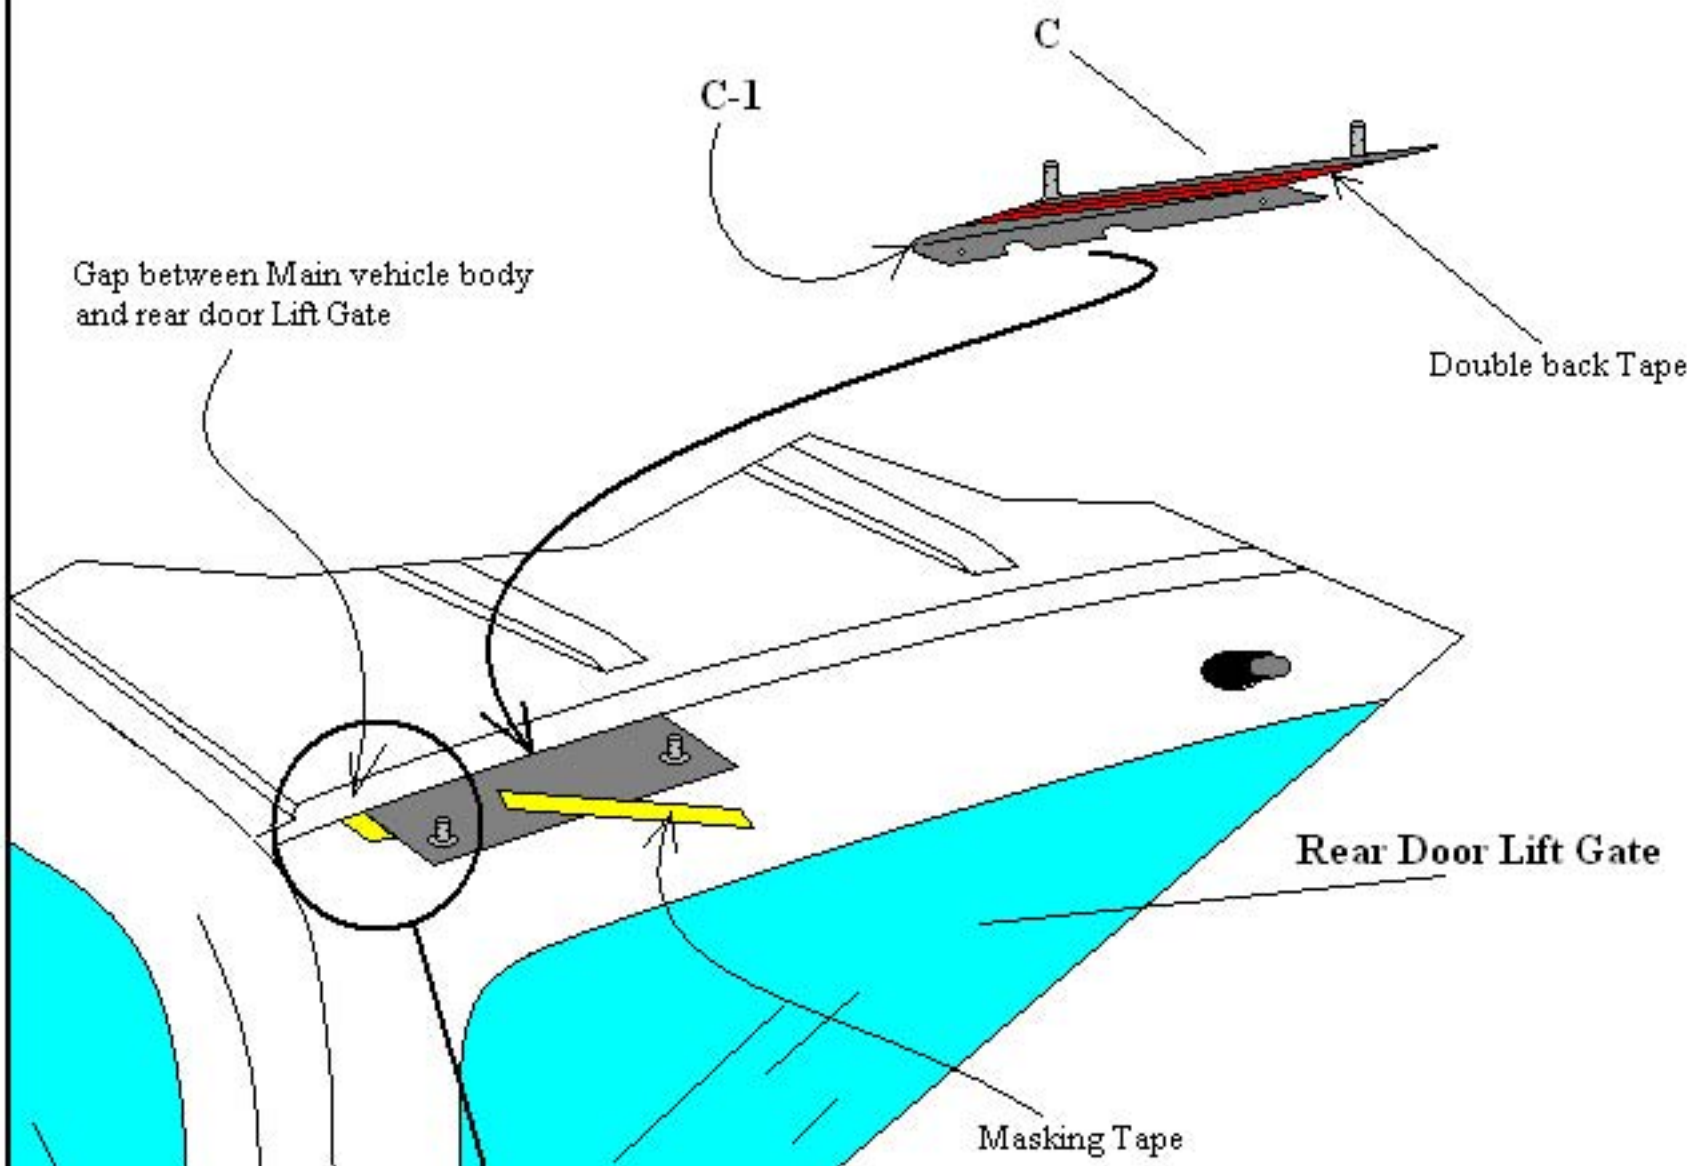
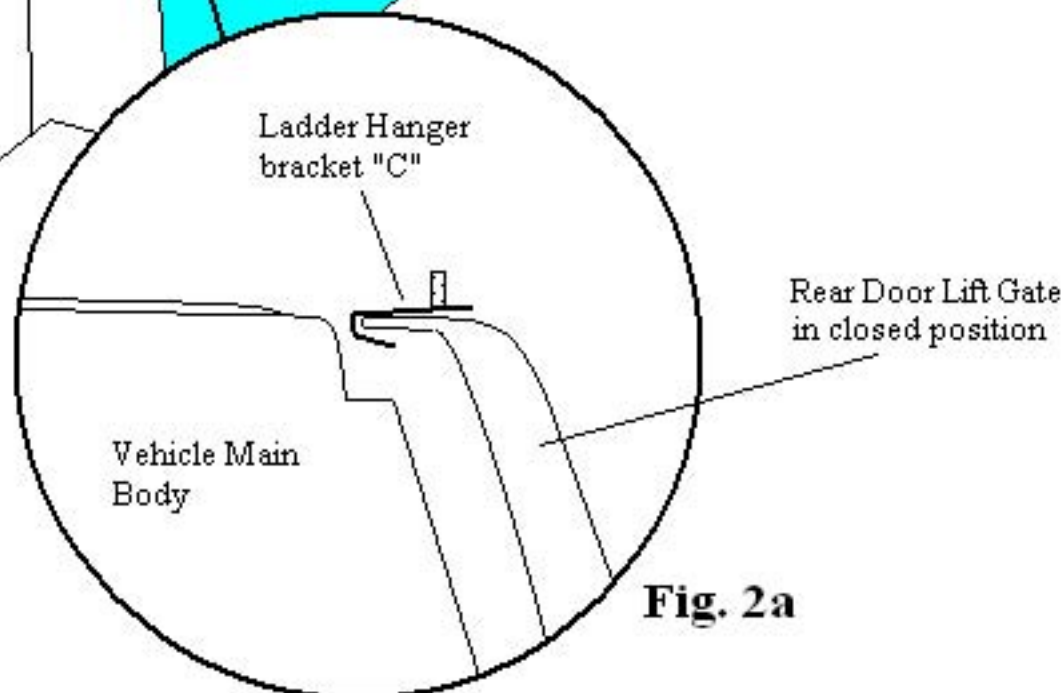

Fig. 2
Fig. 2a
- 3- Remove Ladder hanger bracket "C" supplied with your parts kit ***Do not peel off the double back protective film at this time*** carefully side bracket "C" as shown on page 5 Fig. 2 and Fig. 2a between the gap of the upper rear door Lift Gate and the main vehicle body. Once bracket "C" has been slipped into the gap align the left edge of the ladder hanger "C" with the masking tape mark and pull ladder hanger bracket "C" so that the inside edge "C-1" is up against the rear Lift Gate doors edge as shown in Fig. 2a page 5. Use an additional piece of masking tape to hold down bracket "C" from moving temporarily at this time.
- 5- Refer to page 5 and remove the ladder hanger bracket "C" from the door, clean the surface area where the ladder hanger bracket is to be attached with denatured alcohol. Peel off the protective double back tape film and re-fit ladder hanger bracket "C" back in place and be sure that the inner edge "C-1" is in full contact with the rear door Lift Gate's upper edge as shown in Fig. 2a. Once in place press down firmly and hold for at least 30 seconds.